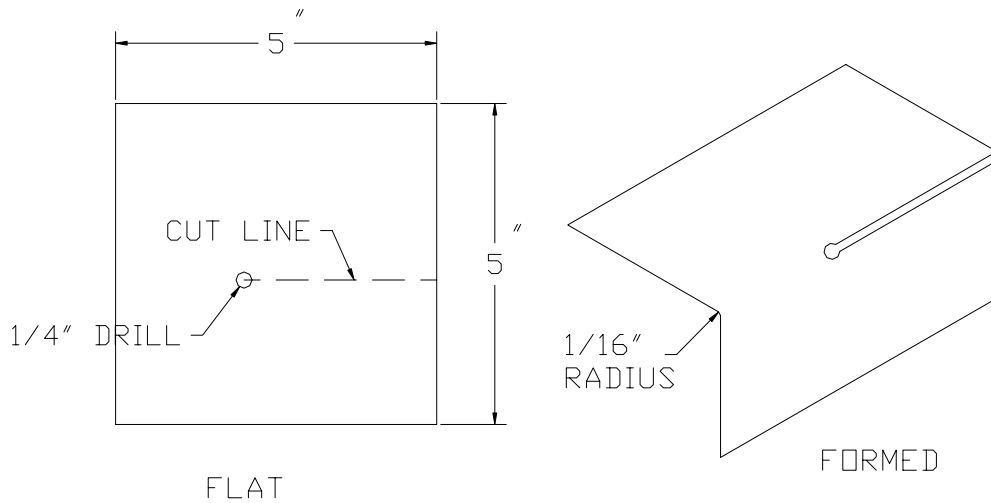

Figure 9.14.1
- 1) From Stock material 0.032" (W-143) cut and form two outer fuselage gussets (FUS-51) as in Figure 9.14.1.